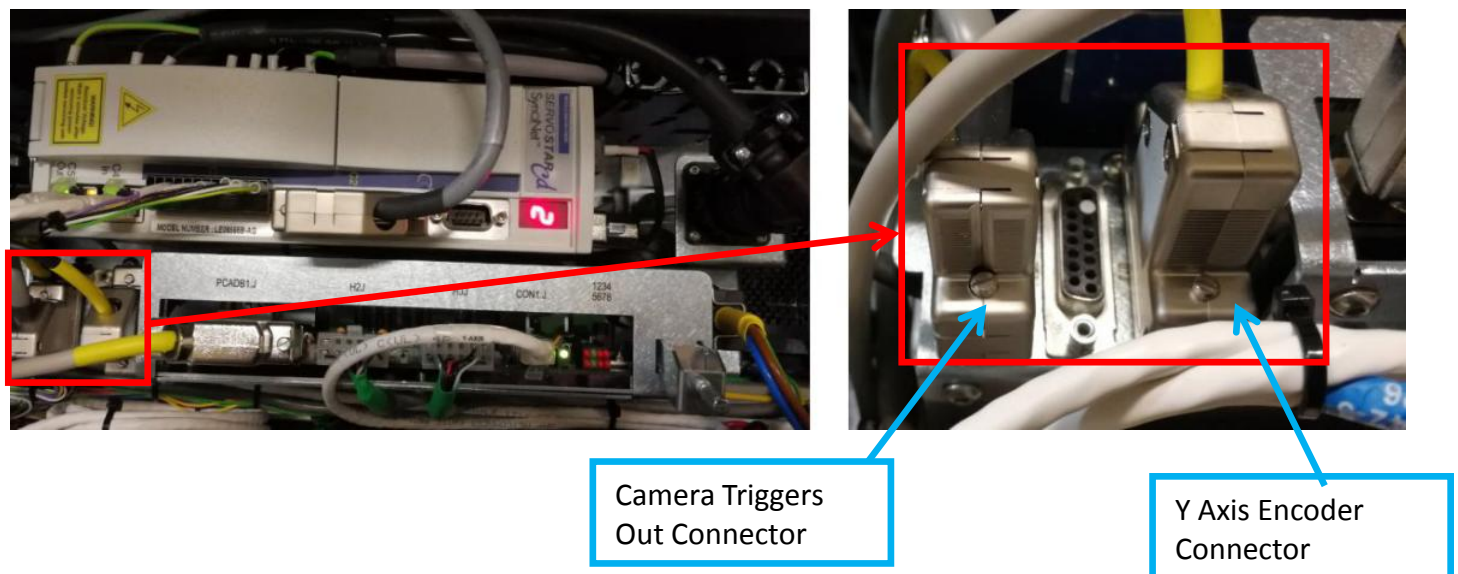

Figure 7
10. Disconnect Y axis encoder & Camera Triggers Out Connector from 07J & 05J as Figure 7